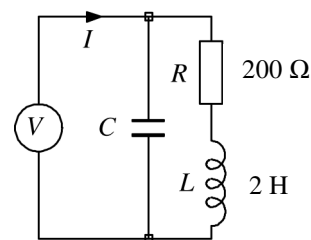

Figure 3.1
3. The circuit of Figure 3.1 is typical of a power factor corrected fluorescent lamp fitting.
- a. (i) Show that the impedance V/I of the RLC combination shown in Figure 3.1 is given by: